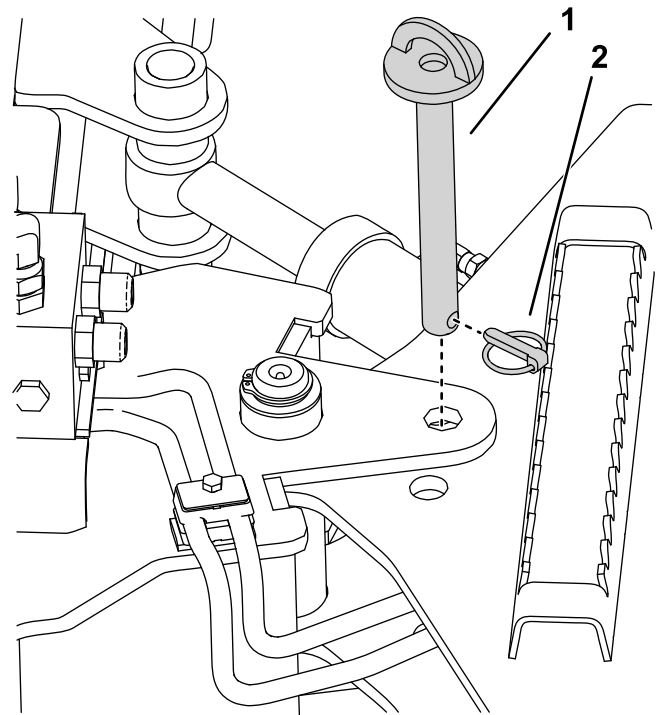

Figure 5
9. Remove the angle pin and the lynch pin that are securing the power rake from angling (Figure 5).